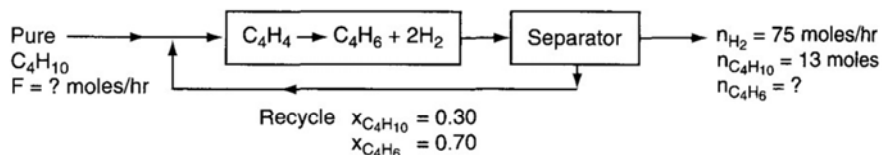

Figure SAT12.3P1
7. A catalytic dehydrogenation process shown in Figure SAT12.3P1, produces 1, 3 butadiene ( $C_4H_6$ ) from pure normal butane ( $C_4H_{10}$ ). The product stream contains 75 mol/hr of  $H_2$  and 13 mol/hr of  $C_4H_{10}$  as well as  $C_4H_6$ . The recycle stream is 30% (mol)  $C_4H_{10}$  and 70% (mol)  $C_4H_6$ , and the flow is 24 mol/hr.